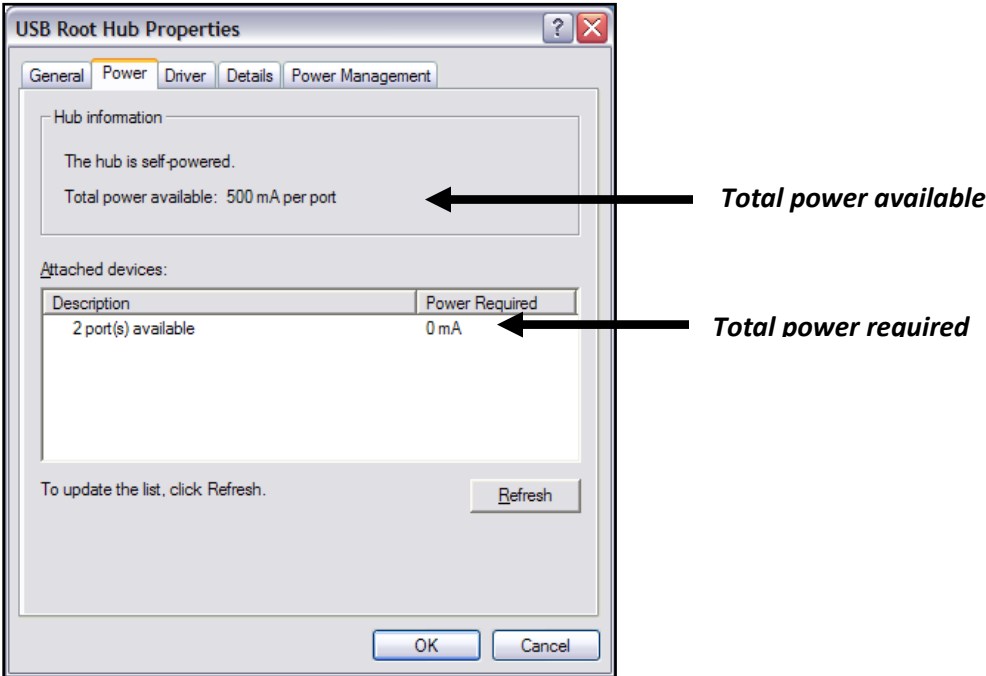

FIGURE 85 - USB POWER SCREEN
9. Click on **Power**. The **Total power available** is displayed as illustrated in *Figure 85*.